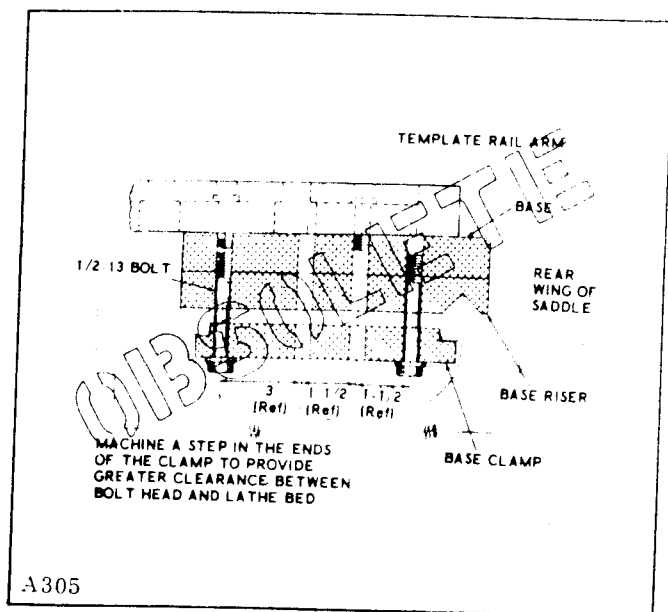

Figure 2-13. Alternate Installation of Early Template Rail Assembly #40754 and #43554.
b. Figure 2-13 shows an alternate method of attaching the template rail assembly of a standard kit. This method does not utilize leveling screws or the extra 1/2-13 socket head screws. This method, however, is quite satisfactory where the clamping bolts will be readily accessible and where particular care is taken in the machining of the base to provide an exact fit on the lathe, and eliminating the necessity of the adjustment provided by the leveling screw.